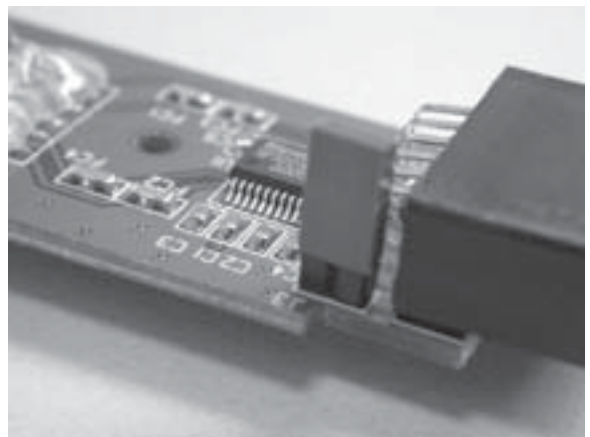

Figure A-3. Connector J3 Shorted.
3. Short the two pins of J3, see Figure A-3.